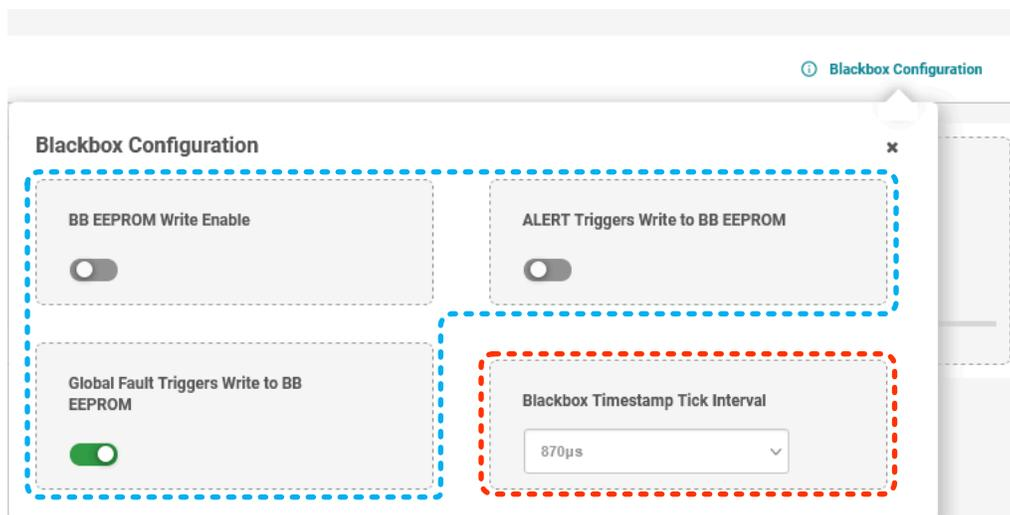

Figure 6-21. TPS25990EVM-GUI: Blackbox: Blackbox Configuration
After powering up the device, the Blackbox tick timer update rate must be configured in the BB_CONFIG (E5h) register. This is shown in the RED circle in Figure 6-21.
2. Any one of the three BB EEPROM write trigger bits is set in the BB_CONFIG (E5h) register as outlined by BLUE circle in Figure 6-21.